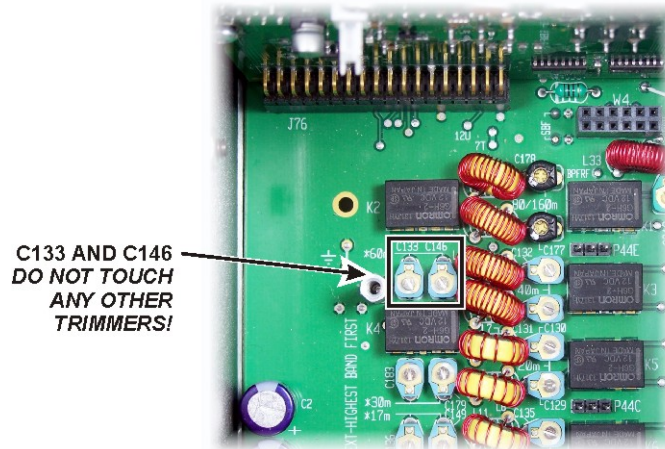

Figure 3. Location of 60 Meter Trimmers C133 and C146.
- Locate trimmer capacitors C133 and C146 near the rear left corner of the RF Board (see Figure 3).